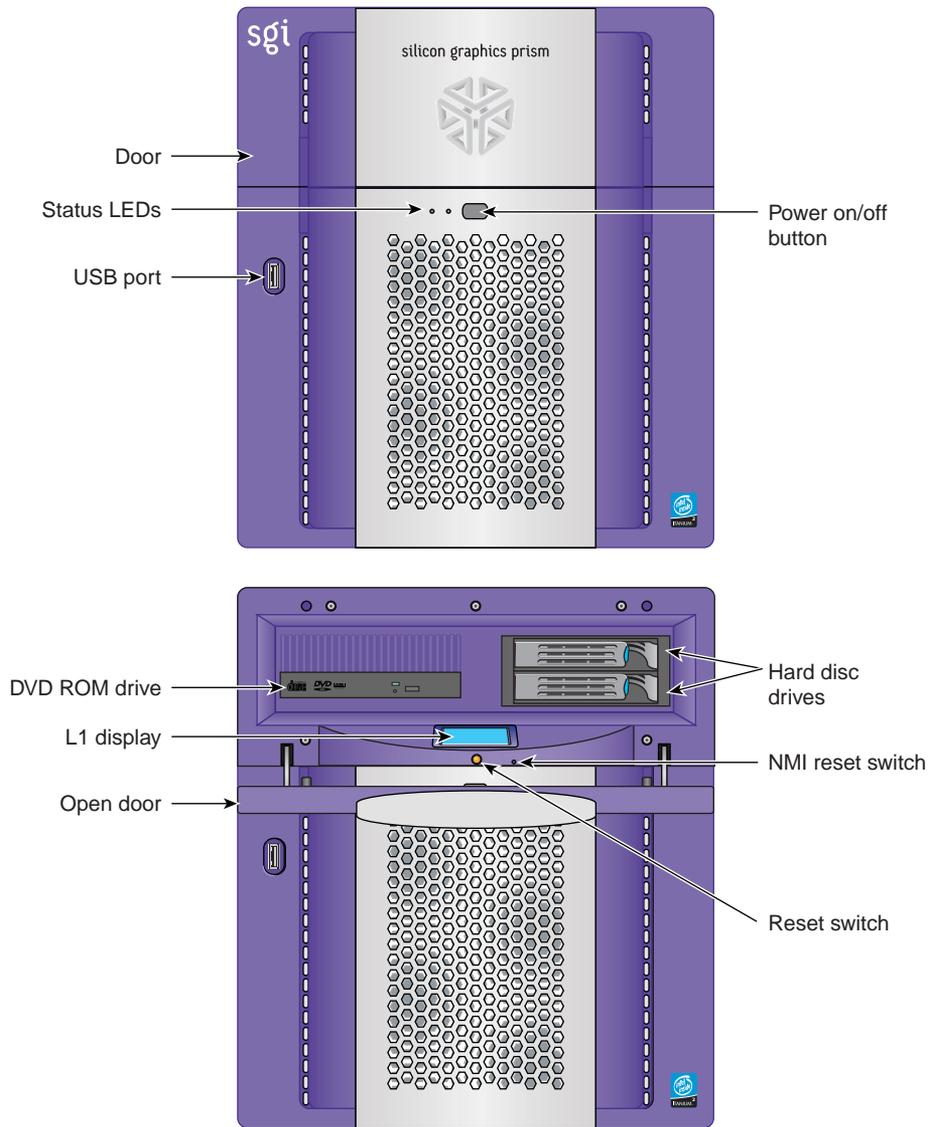

Figure 1-3 Front View of the System
- Figure 1-3 on page 6, which shows the front view of the system.
The front panel of the enclosure (see Figure 1-3 on page 6) has the following controls and indicators: